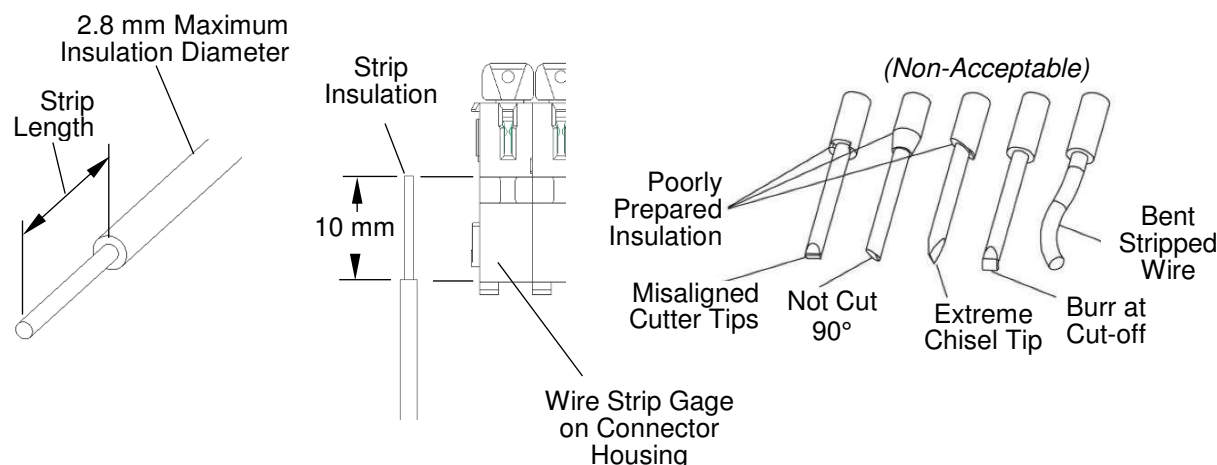

FIGURE 2
Allowable wire types are solid copper conductor in AWG sizes 18, 20, 22, and 24, as well as conductor sizes 0.82 – 0.20mm². Wires should be carefully prepared to the required insulation strip length, and, avoid damage to the conductor. The wire strip length is 10.0+/-0.5mm. A “strip length gage” is provided on top surface of the connector housing to indicate length of insulation to be stripped from wire. Reference Figure 2 for additional wire preparation information.
1. Select and prepare wire as specified in paragraph 5 and Figure 2.